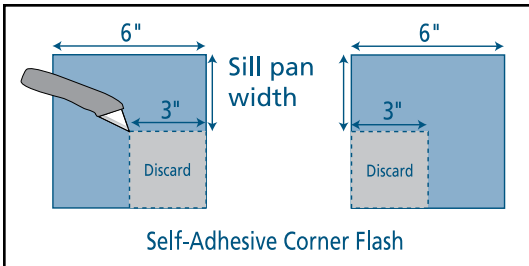

Fig. 7 Cut self-adhesive flashing
- For doors on continuous slab, cut out the inside corner as shown in **Fig. 7**: